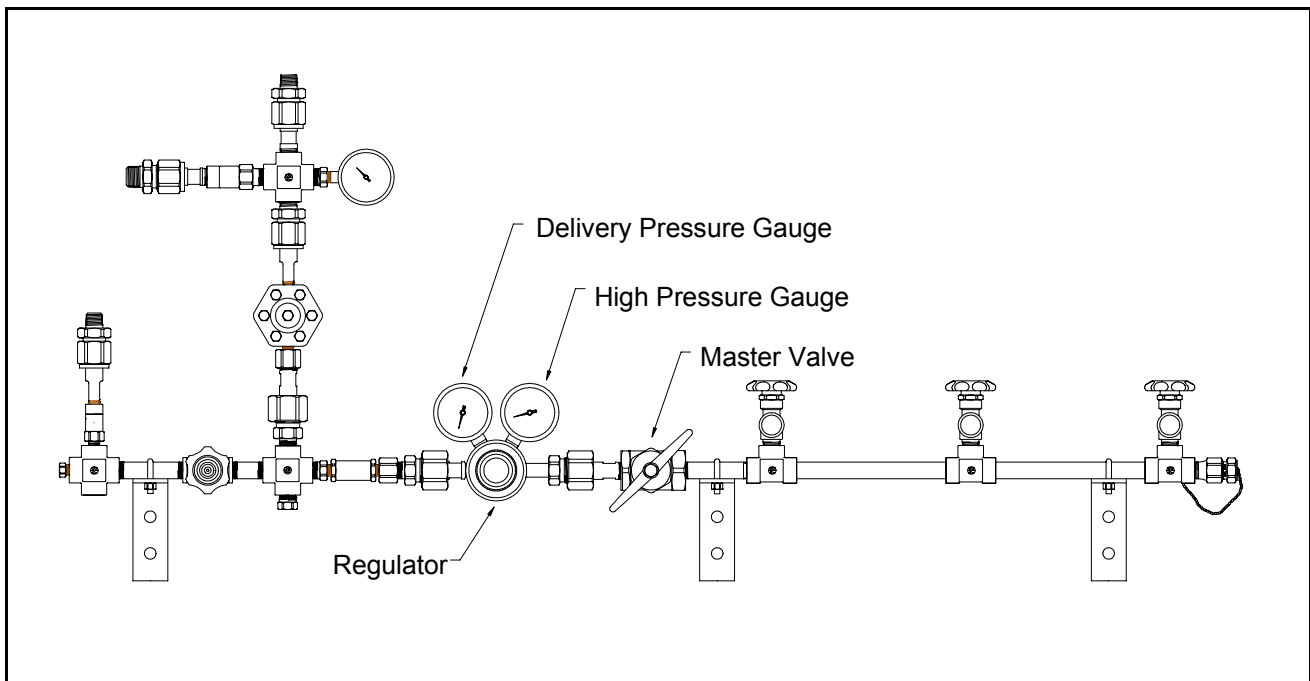

FIGURE 11
2. S-L-O-W-L-Y open the cylinder valves (turn counter-clockwise to open). The high pressure gauge will show the pressure of the bank of cylinders. (Figure 11)